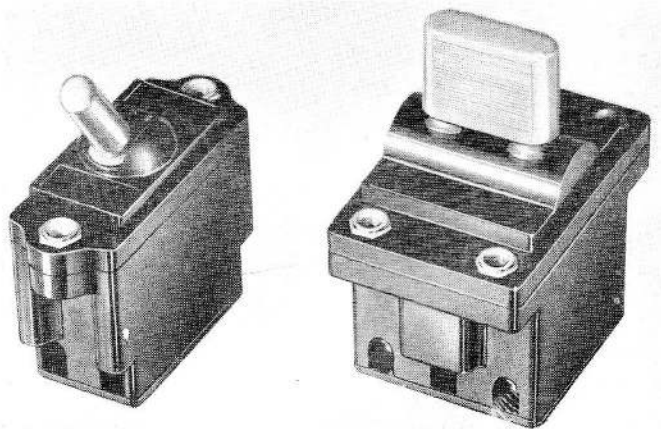

Fig. 1. Typical single and double-pole switches
2. A typical switch of each group is illustrated in fig. 1. The mechanism of each is identical, the double-pole version consisting essentially of two single-pole switches in one moulded case, with the two operating levers strapped together. The 3-way single-pole switches are essentially double-pole switches with an internal link (*Appendix 1, fig. 1*).